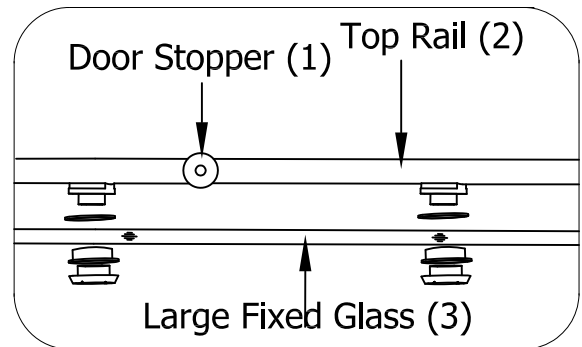

Fig. 4
- Position the Top Rail (2) and Large Fixed Glass (3) as shown in Fig.4 and connect Large Fixed Glass (3) to Top Rail (2) following the assembly sequence shown in Fig.4. Note in Fig.4, one Door Stopper (1) should be positioned between mounting holes in Top Rail (2) before connecting Top Rail to Large Fixed Glass.